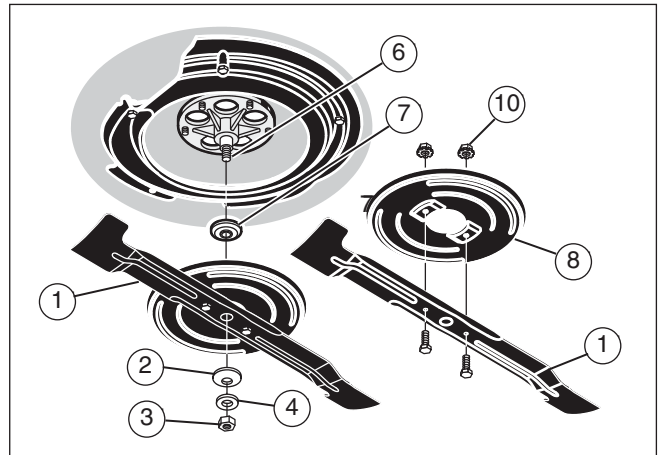

Figure 22
If you keep the blade (1) sharp and inspect the blade for damage, the blade will cut better and be more safe to operate (see **Figure 22**). Frequently check the blade for excessive wear, cracks, or other damage.
3. Remove the nut (3) that holds the blade (1) (see **Figure 22**).